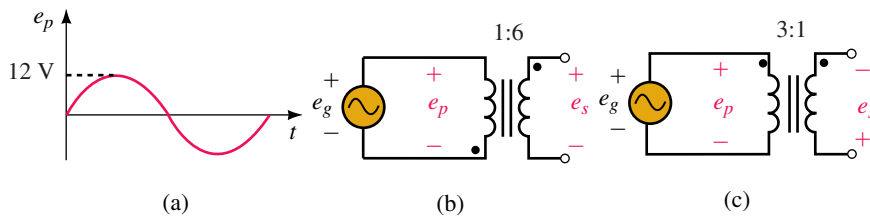

FIGURE 24–14
2. Repeat Problem 1 for Figure 24–14(c).
3. If $\mathbf{E}_g = 120 \text{ V} \angle 30^\circ$, determine \mathbf{E}_s for each transformer of Figure 24–14.